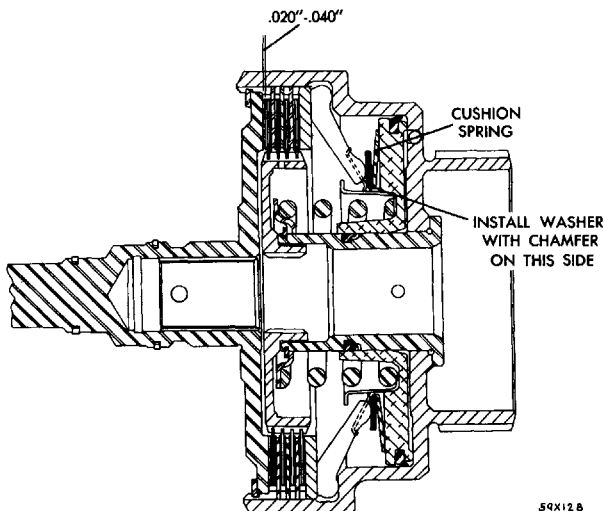

Fig. 74—Cushion Spring Washer Position
(5) Place cushion spring washer (M) on cushion spring with chamfer up, toward front on assembly (Fig. 74).